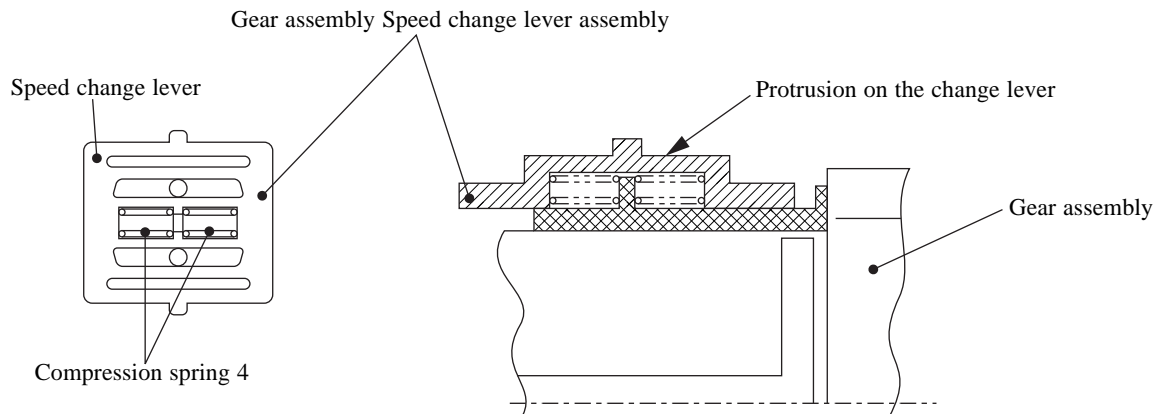

Figure 4
- 2) Assemble the speed change lever assembly on the protrusion of the change lever as shown on the figure 4 while using care that the compression spring 4 may not jump over.